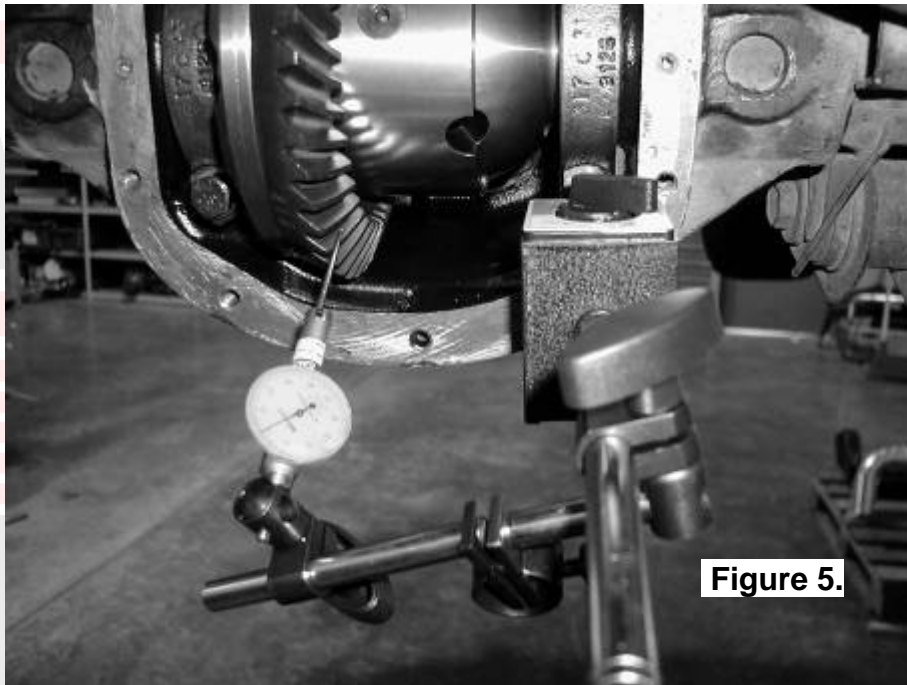

Figure 5.
- Set a depth indicator on one of the ring gear teeth as in figure 5.